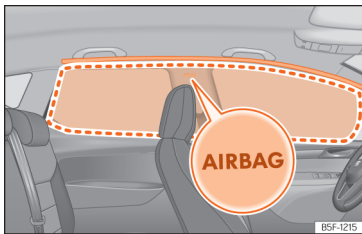

Fig. 38 Location and deployment area of the head-protection airbag.
Head-protection airbags are on both sides of the passenger compartment, above the doors »» **Fig. 38** and their location is indicated with the word "AIRBAG".
The framed area is covered by the head-protection airbag when it is deployed (deployment area) »» **Fig. 38**. Therefore, objects should never be placed or mounted in this area »» **△**.
- Ensure that children are correctly seated in their seats and that their heads are not in the deployment zone of the head airbags »» **Fig. 38**, as deploying airbags could hit them and cause serious injury.